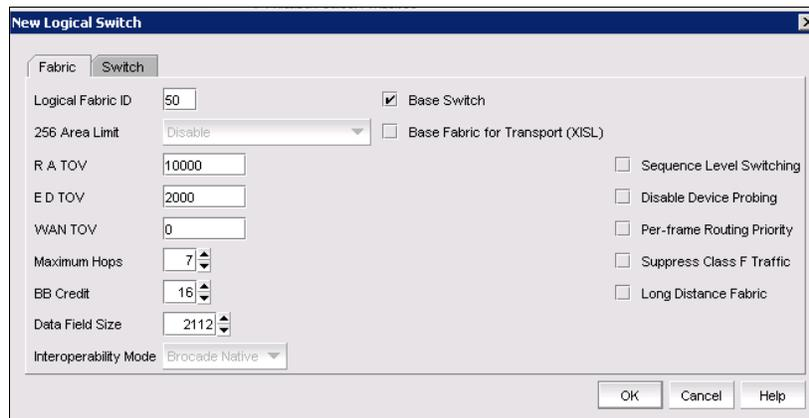

Figure 6-31 Assign the fabric ID for the base logical switch
3. Assign a fabric ID to this logical switch (Figure 6-31). Clear the check box **Base Fabric for Transport (XISL)**, and select **Base Switch**. Here we use 50 for the fabric ID of the base logical switch.